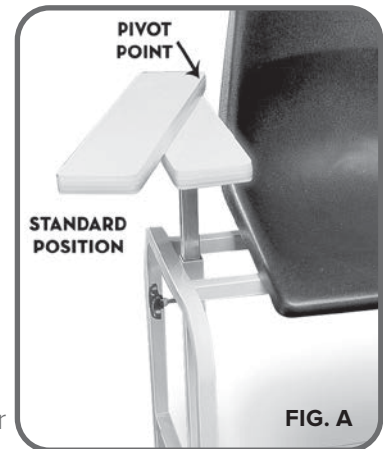

FIG. 2
2. To reinstall the drawer, insert the rear part of the drawer past the drawer stop, then slide the drawer into the frame **(FIG. 2)**. Bin dividers can be installed into the grooves as needed **(FIG. 2)**.